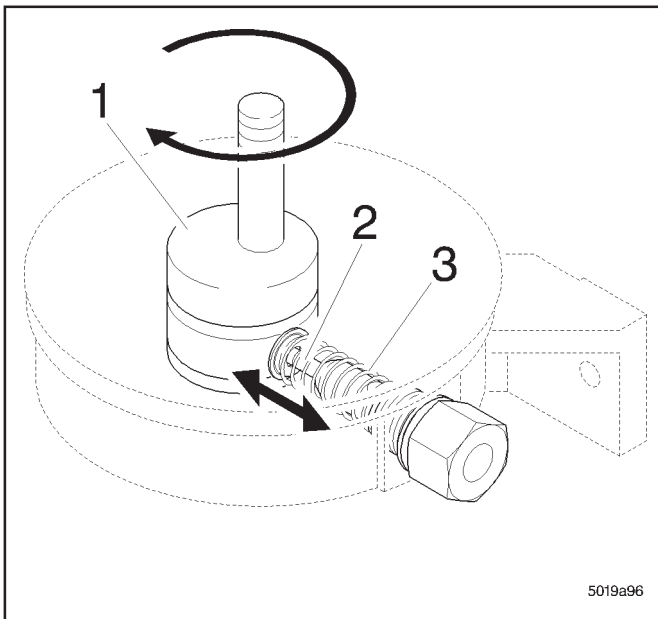

Fig. 2 - Pump element with eccentric
• The electric motor drives the eccentric 1 (Fig. 2) .